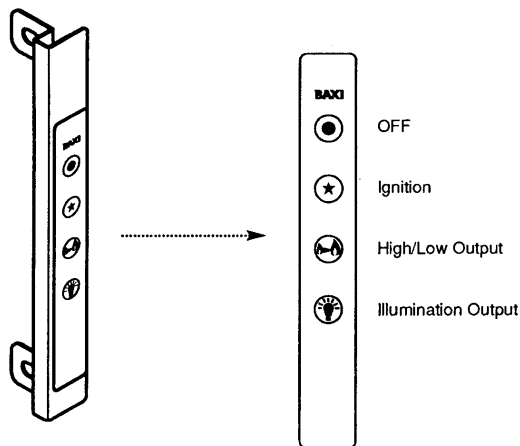

Fig. 22
1. To purge the air from the appliance, press the ignition button (☉) on the switch panel at the top right hand side of the fire (Fig. 22).